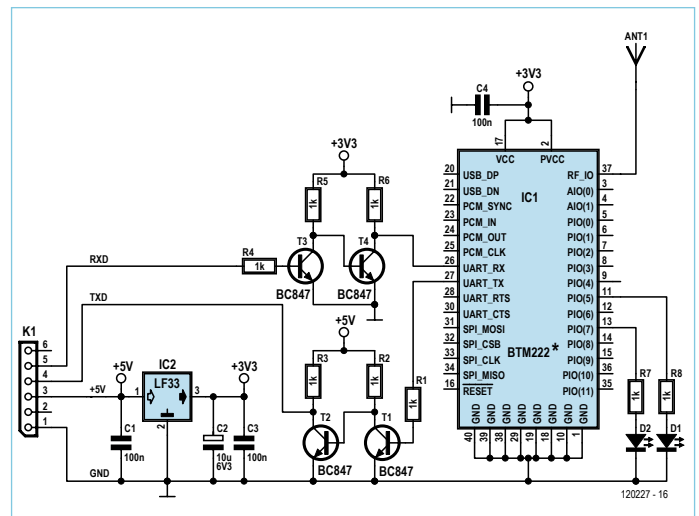

Figure 7. Level-shifting the Rayson Bluetooth module. You can use any Bluetooth module that can handle the Serial Port Profile (SPP) (most, if not all, do).
I hate wires and cables. They are always too short; never have the right connectors at the end and forever create spaghetti knots. Today there are solutions to get rid of some of those cables and one of them is called Bluetooth. My computer has Bluetooth (BT), and if yours doesn't just stick a BT dongle in it. Adding BT to Platino is very easy if you only need a serial cable replacement. In Elektor we have used several Rayson BT modules that can do this. They are inexpensive and badly documented, but that doesn't stop me [4]. To connect a BTM220 (BTM222, BTM112, etc.) you only need a level shifter for the RX and TX signals because it is a 3.3 V module. We already showed you how to do this in Elektor [5], but you can use **Figure 7** as a reminder. I quickly built an extension card in Arduino